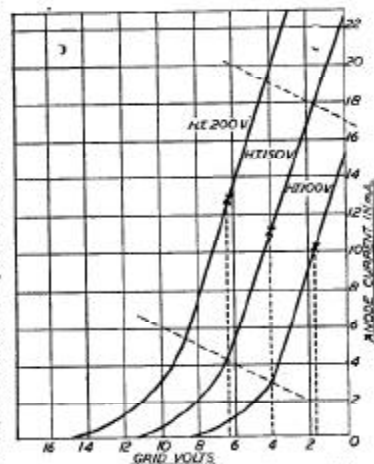

Fig. 22.—Typical characteristic curve of an amplifying valve, showing the variation in grid bias resulting from variation in H.T. voltage.
**The Valve Curve.**—A valve curve is shown in Fig. 22, and it will be seen that the vertical line at the extreme right
can plot a characteristic curve ourselves. First obtain a piece of graph paper and mark it off as shown in Fig. 22. Connect up a valve-holder, grid-bias battery, H.T. battery and L.T. battery and connect a milliammeter in the anode lead between plate and H.T. positive. With no grid bias and 60 volts H.T., note the current indicated by the milliammeter. On the squared paper on the zero line make a dot where the line corresponding with the anode current intersects. Now plug the grid-bias plug into the 1.5 volt socket and note the anode current, making a dot on the chart about